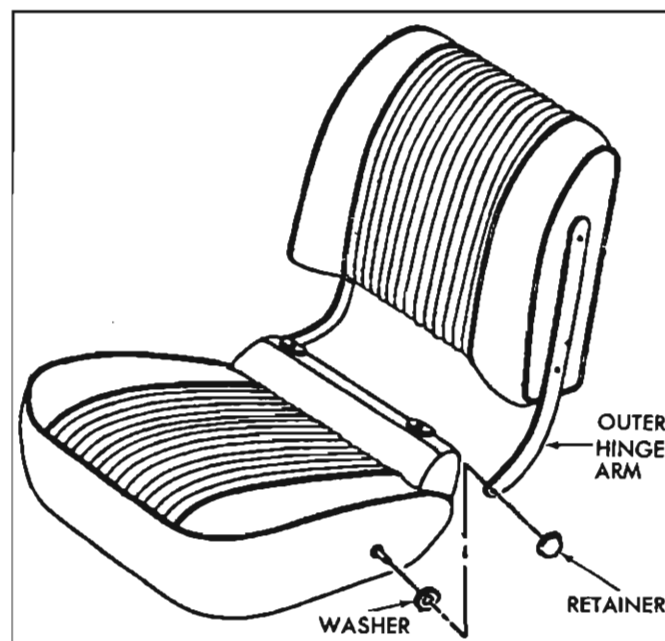

Fig. 23—Bucket Seat—Back Removal
1. Using a flat-bladed tool, carefully remove retainer from outer hinge pin (fig. 23).